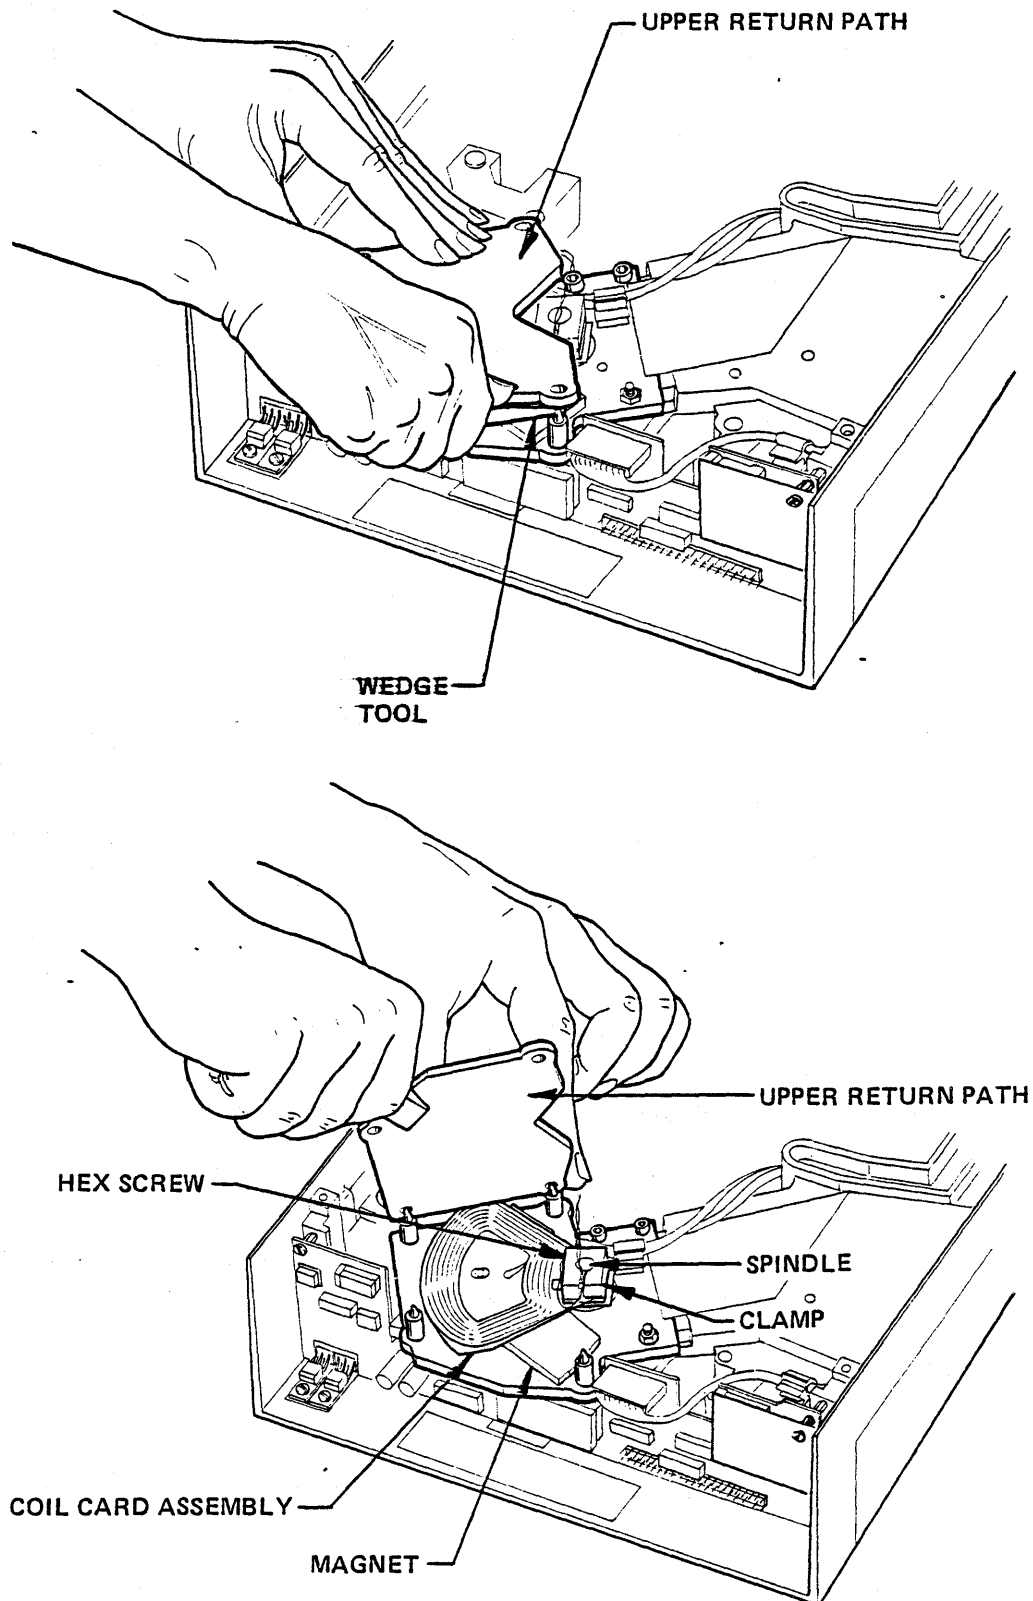

Figure 4-11. Removal of Upper Return Path
4. Loosen the inset hex screw in the coil card clamp. Lift the assembly off the spindle shaft. Save the hex screw for attaching the new assembly to the spindle shaft (Figure 4-11).